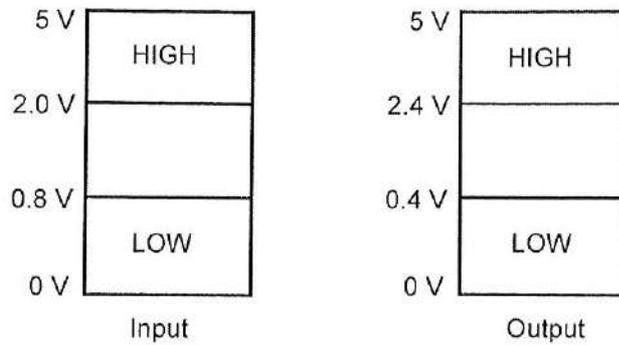

Figure Q5(c) / Rajah Q5(c)
- (c) Determine the values of noise margin (HIGH & LOW) from the logic level shown in Figure Q5(c).